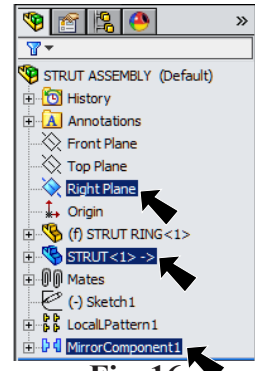

Fig. 16
Step 1. **Ctrl click Right Plane** , **Strut** and **Mirror Component1** in the Feature Manager to select the three, **Fig. 16**.